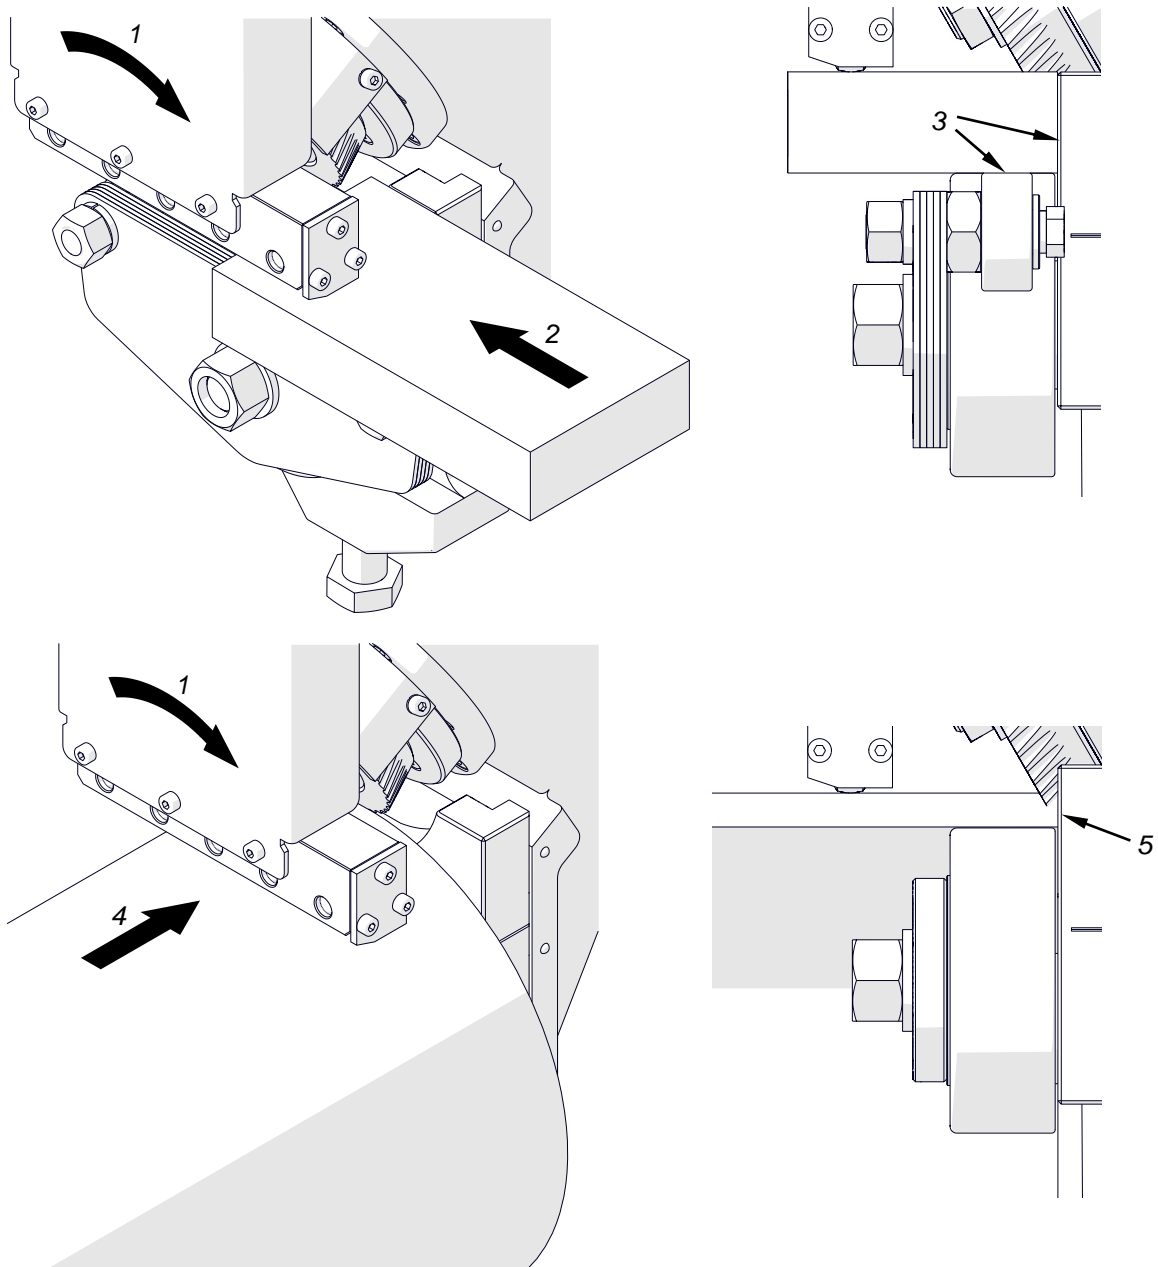

Fig. 4. Beveling plates or pipes
Connect the machine to the power source and use the power switch to turn on the power. Set the rotation direction switch to “1” and make sure that the cutter rotates in direction 1 (Fig. 4). If it rotates in the opposite direction, set the switch to “2.” Next, insert the plate (2) so that it rests on the slide and support rollers (3). To bevel a pipe, place it on the guide roller, move it to the slide (4, 5), and keep the pipe in this position.
After the milling is started, the workpiece moves automatically. To bevel the plate from the bottom, place the machine upside down and insert the plate from the direction opposite to 2 (Fig. 4).